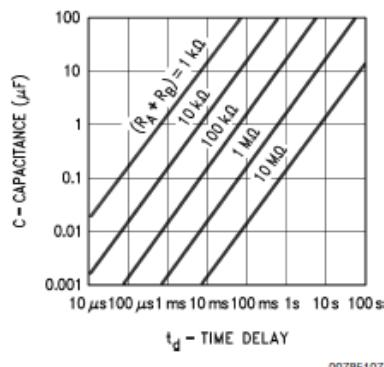

FIGURE 3. Time Delay
*Figure 3* is a nomograph for easy determination of  $R$ ,  $C$  values for various time delays.